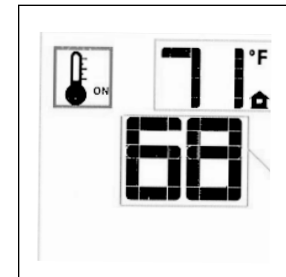

Figure 67. Smart Set Temp.
- To adjust the temperature, press the Up or Down Arrow Keys until the desired Set Temperature is displayed. Fig. 67.